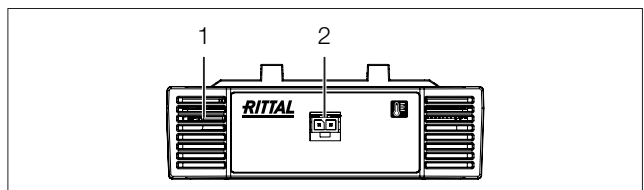

Fig. 12: Front of the temperature sensor
- If necessary, connect the external temperature sensor to the temperature sensor connector on the front (fig. 12, item 2).